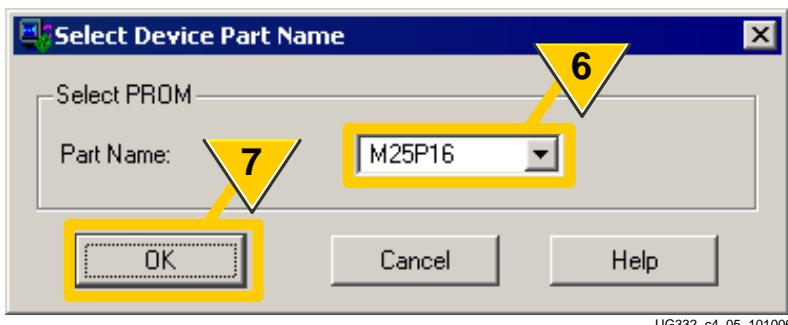

Figure 12-8: Select a Supported SPI Flash Memory Device
6. Select the Part Name for a supported SPI serial Flash, as shown in Figure 12-8.